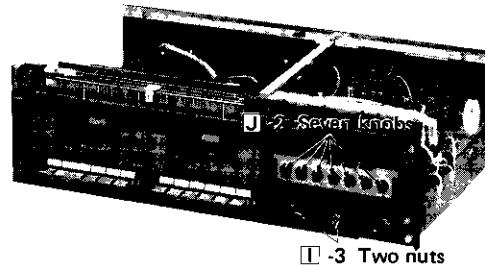
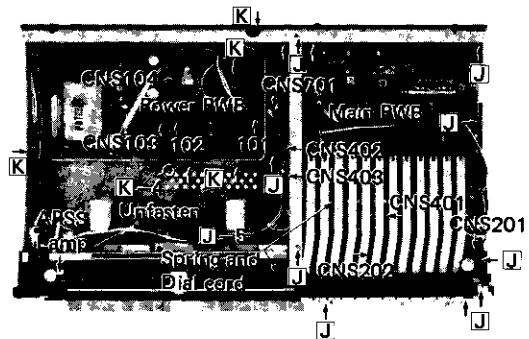

Figure 6-2
Figure 6-4
3. Remove two nuts from the volume PWB, and take the PWB out. See Fig. 6-2.
2. Detach twelve switch interlocking levers, pull out seven sockets (CNS101, CNS201, CNS202, CNS401, CNS402, CNS403 and CNS701) and one APSS lamp (PL401), all shown in Fig. 6-4; remove three sockets (CNS301, CNS302 and CNS303) shown in Fig. 6-1; and pull out seven knobs (record level, tape fader, mic mixing, balance, bass, and treble controls) shown in Fig. 6-2.
4. Remove nine screws from the main PWB. See Fig. 6-4.
2. Pull out four sockets (CNS101, CNS102, CNS103 and CNS104). See Fig. 6-4.
3. Remove five screws from the heat sink plate (power PWB). See Fig. 6-4.
4. Unfasten the one-touch start switch coupling lever, and take the power PWB out. See Fig. 6-4.